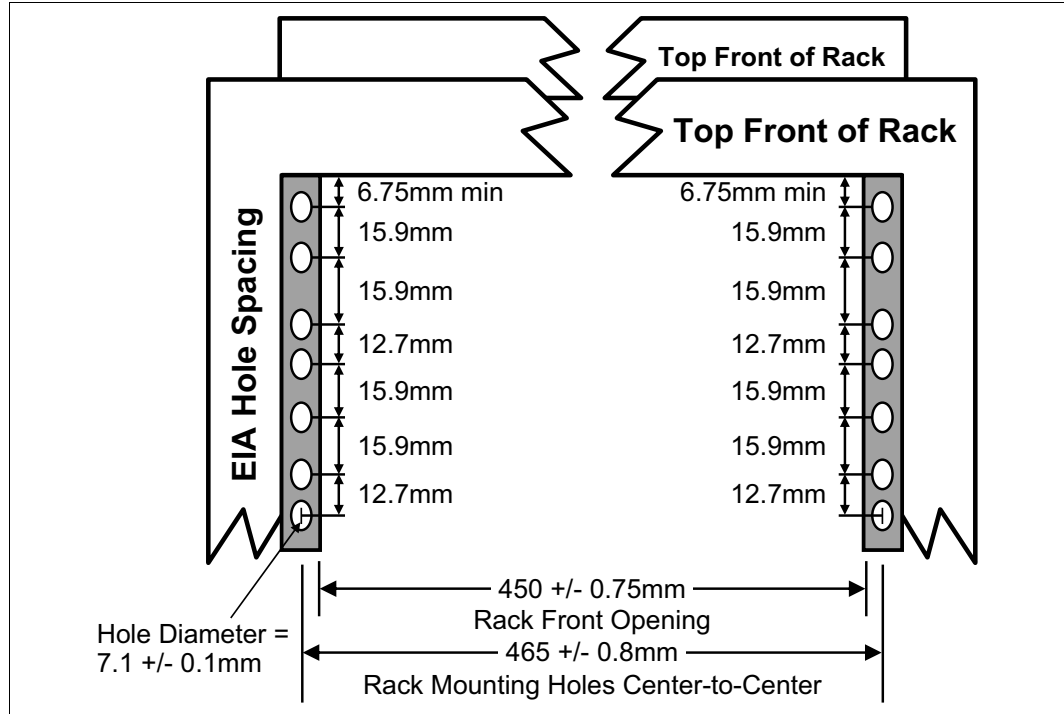

Figure 1-17 Rack specification dimensions: Top front view
- ▶ The vertical distance between the mounting holes must consist of sets of three holes spaced (from bottom to top) 15.9 mm (0.625 in.), 15.9 mm (0.625 in.), and 12.67 mm (0.5 in.) on-center, making each three-hole set of vertical hole spacing 44.45 mm (1.75 in.) apart on center. Rail-mounting holes must be 7.1 mm ± 0.1 mm (0.28 in. ± 0.004 in.) in diameter. Figure 1-17 shows the top front specification dimensions.